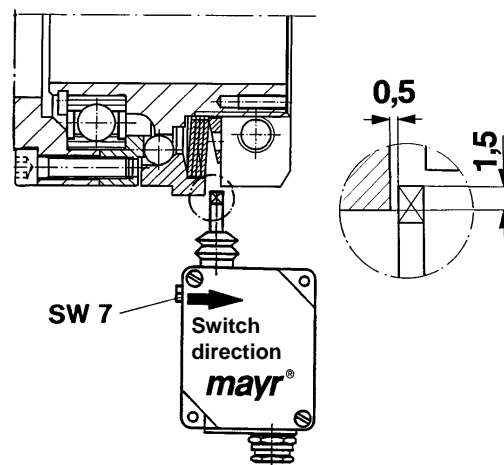

Fig. 2
Fitting the limit switch (Figs. 2 and 3):
The switch direction located at the housing cover of the mechanical limit switch points in the direction of the clamping nut (9) or in stroke direction of the thrust washer (3). Adjust the switch distances for the mechanical and contactless limit switch acc. to Figs. 2 or 3. The distance of the thrust washer (3) from the switch point can be sensitively adjusted with a hexagon head cap screw SW 7.